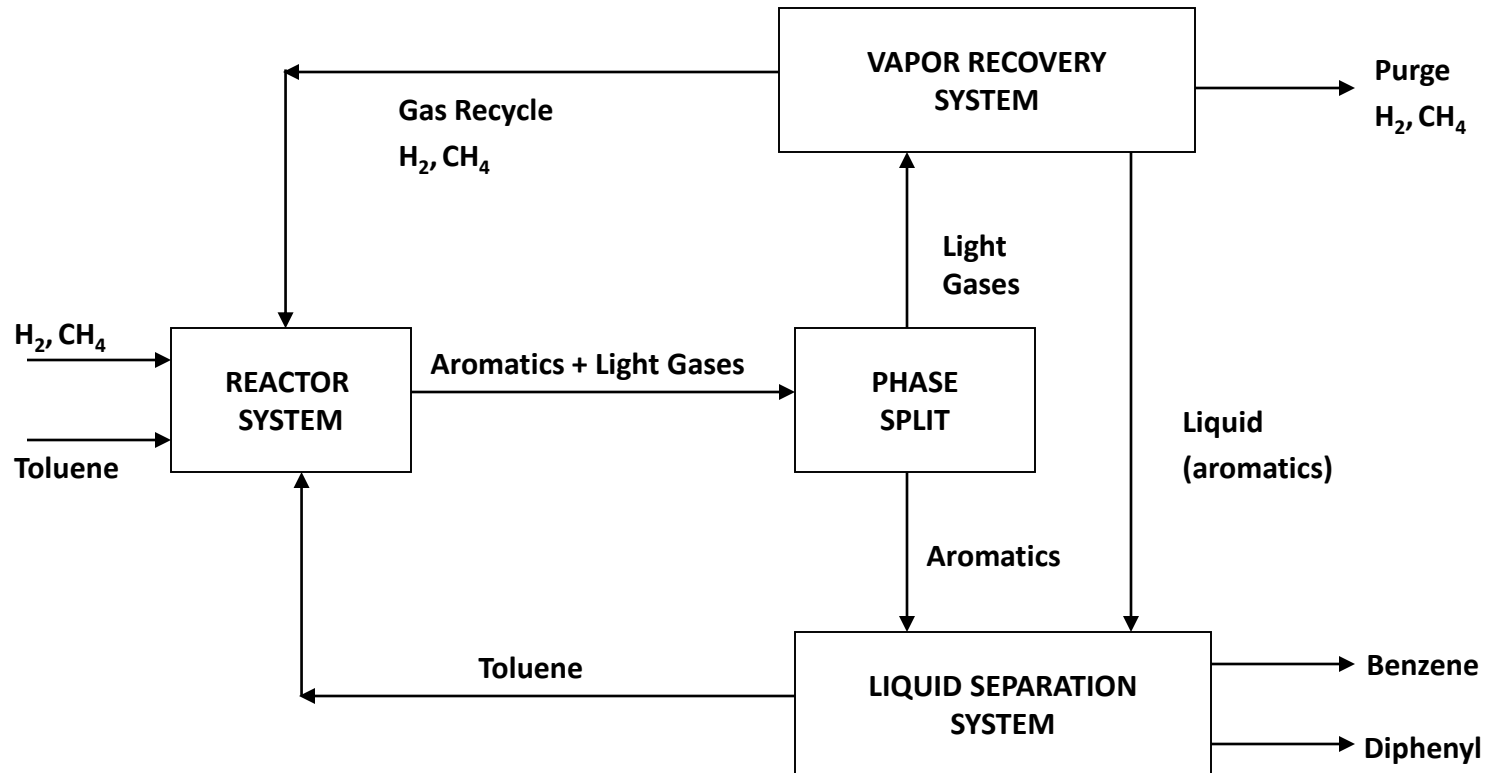

Fig. 5
- The connections between the VRS and LRS shown in Fig. 5